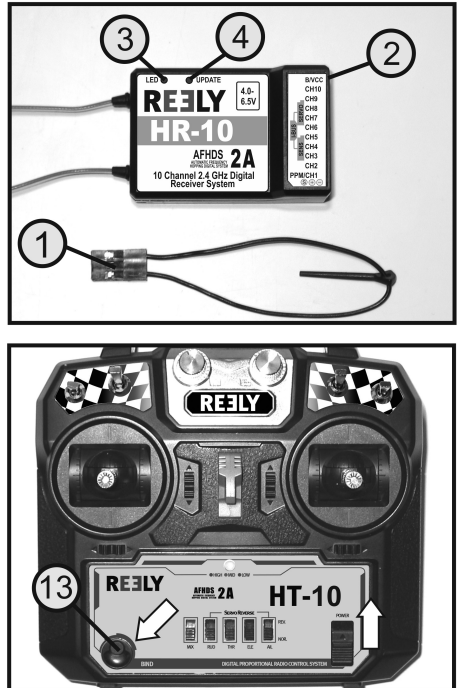

Figure 17
→ The LED with label "UPDATE" (see figure 17, item 4) is only activated when installing new firmware. Since the transmitter and the receiver are delivered with the current firmware, an update is required.